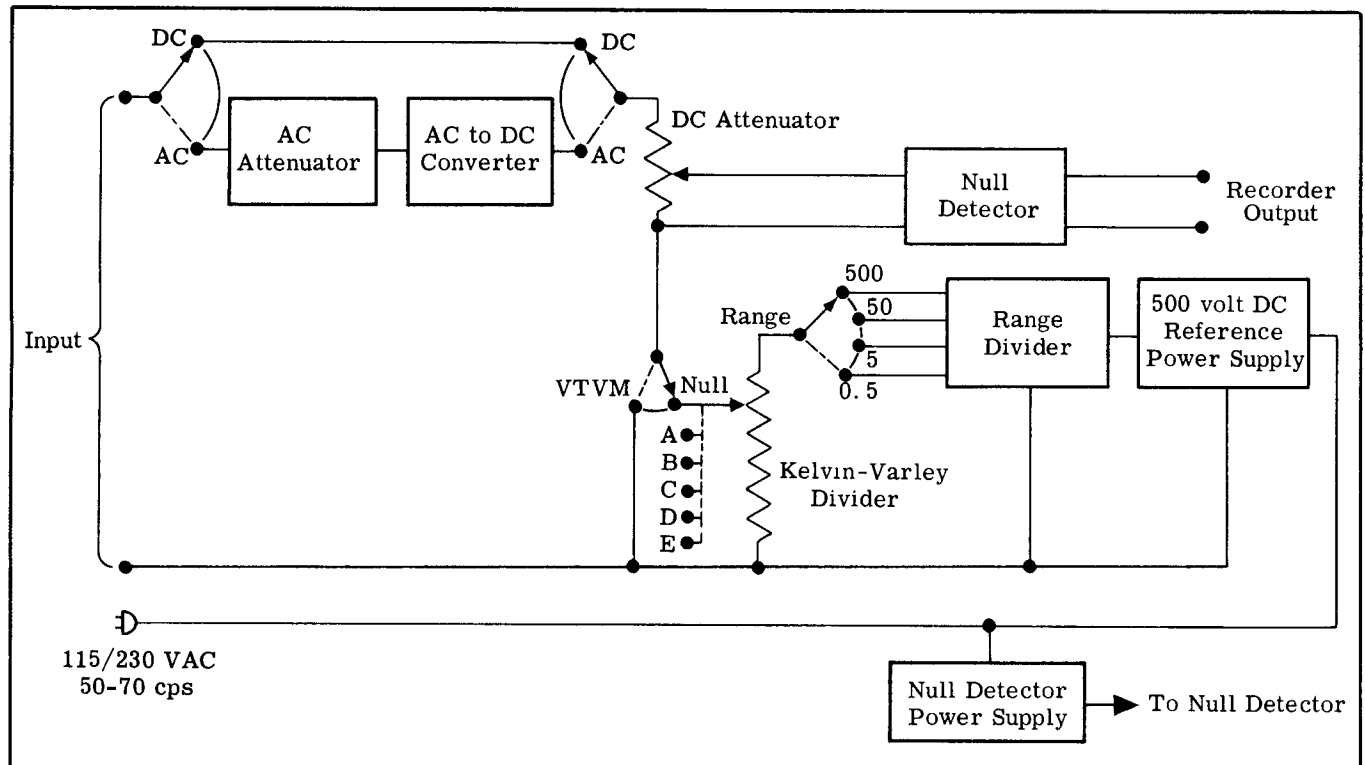

Figure 3-1. 803B AC/DC DIFFERENTIAL VOLTMETER BLOCK DIAGRAM
a. Figure 3-1 shows the block diagram for the 803B AC/DC Differential Voltmeter. As seen in this figure, the circuit is mainly composed of an AC attenuator, an AC to DC converter, a DC attenuator, a null detector, a Kelvin-Varley divider, a range divider, a 500 volt DC reference power supply, and a null detector power supply. Refer to the functional schematic following Section VI for more detail. This schematic is designed to aid in the understanding of circuit theory and troubleshooting. The signal flow is from left to right and the components are laid out in a functionally logical manner.